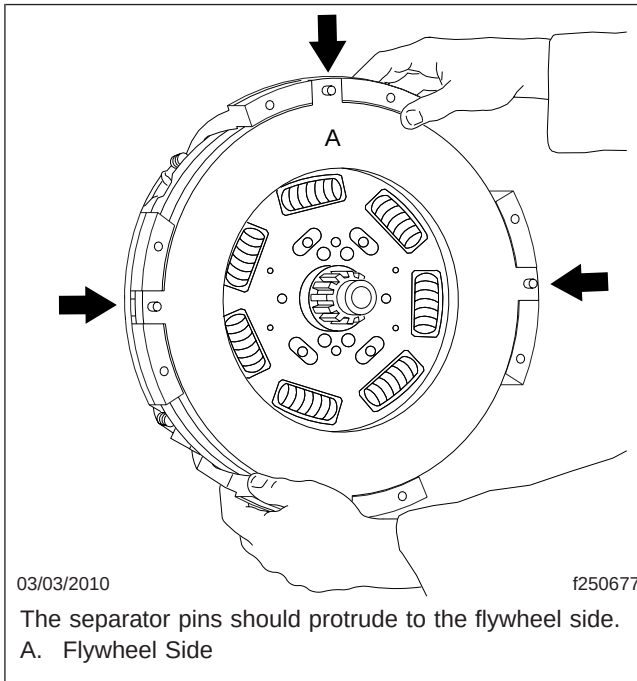

Fig. 4, Positioning the Intermediate Plate
- 4.2 Place the intermediate plate in the clutch cover. Align the drive lugs of the plate with the notches in the cover. See Fig. 4.
- 4.3 Make sure the separator pins protrude toward the flywheel side. See Fig. 4. The pins should be flush on the pressure-plate side.